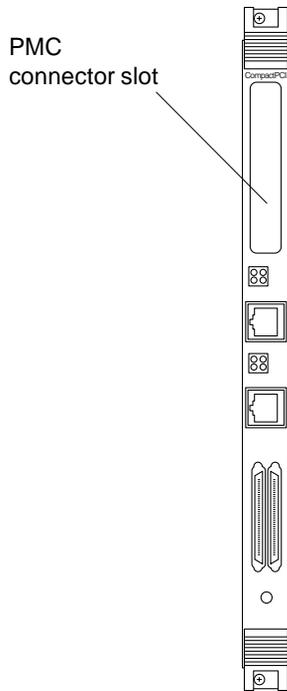

FIGURE 3-5 Connecting PMC Cables to the Adapter
1. If the PMC has a connector to attach to an external device, connect one end of the PMC cable to a PMC connector on the front card of the adapter (see FIGURE 3-5).